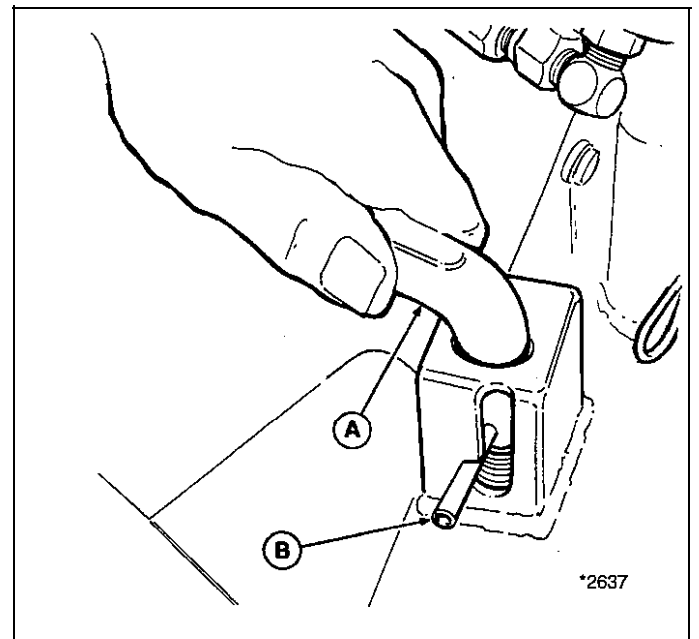

**Figure 7. Mounting Snowthrower**
3. Place snowthrower's shot pins (A, figure 7) in released position (shot pins shown in figure 7 are in locked position).
6. See figure 7. From the tractor seat, start tractor and slowly drive toward snowthrower, while aligning pivot plate (B) with back adapter plate (C) of snowthrower.
8. See figure 7. Slowly drive toward snowthrower until pivot plate (B) makes contact with back plate (C) of snowthrower.
9. Bring tractor to stop and slowly raise hitch until top lip of pivot plate slides into groove of back plate and shot pins (A) slide into place.
8. Pull out shot pins (A, figure 7) on rear of snowthrower and turn until roll pin fits in groove. Repeat for other side.